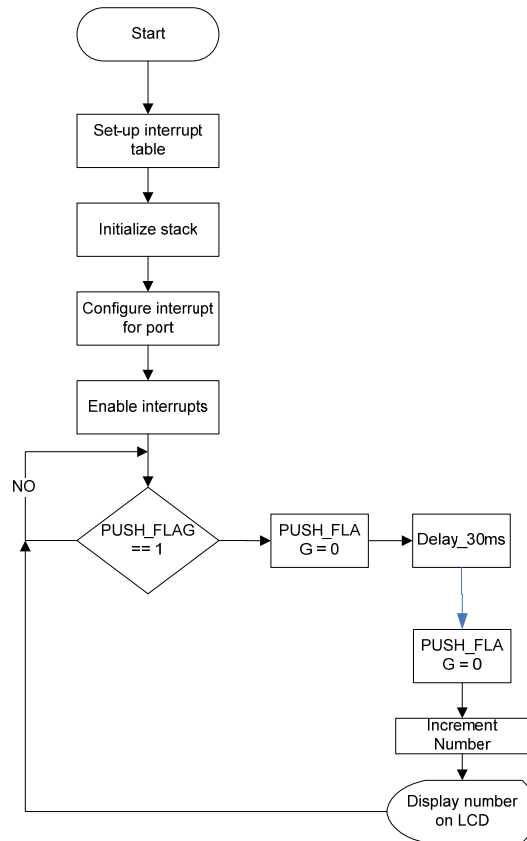

Figure 5: Software debouncing main flowchart.
3. Modify the code in *Part I* for every time the flag is set wait 30ms, reset the flag and if after the 30ms the flag is one, increment the value and display it in the LCD. See Figure 5 for a flowchart. Note this subroutine can be optimized using a timer interrupt to count the 30ms, you will learn this in the next experiment.